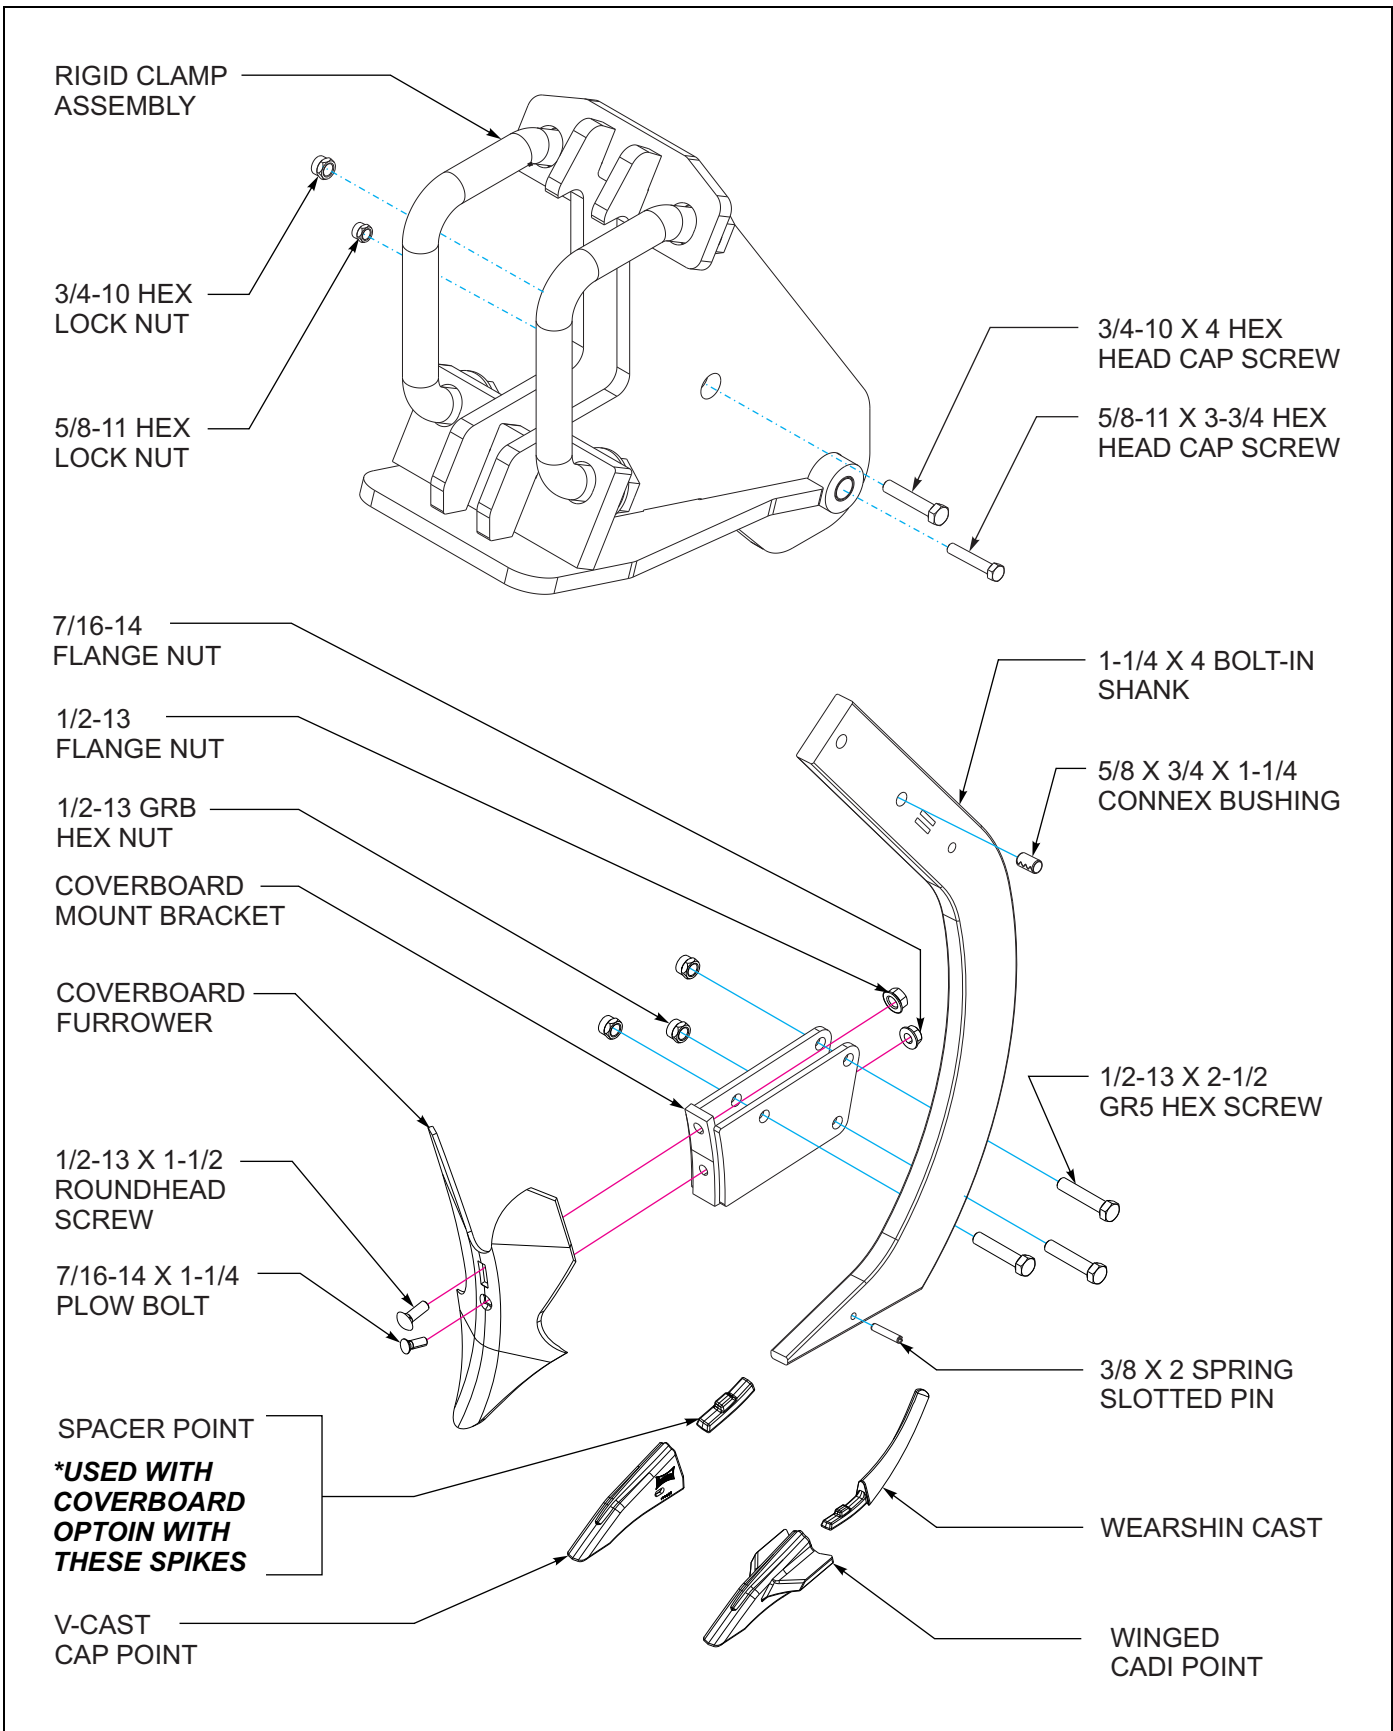

Figure 3-7: RSB Clamp and 1-1/4 Parabolic Shank Assembly
1. Insert three 1/2-13 x 2-1/2 hex screws into the coverboard bracket before attaching the coverboard furrower (See Figure 3-7.) Secure with 1/2-13 nuts and tighten only so that locking portion of nut engages the thread. The customer will tighten these nuts after mounting to shank.